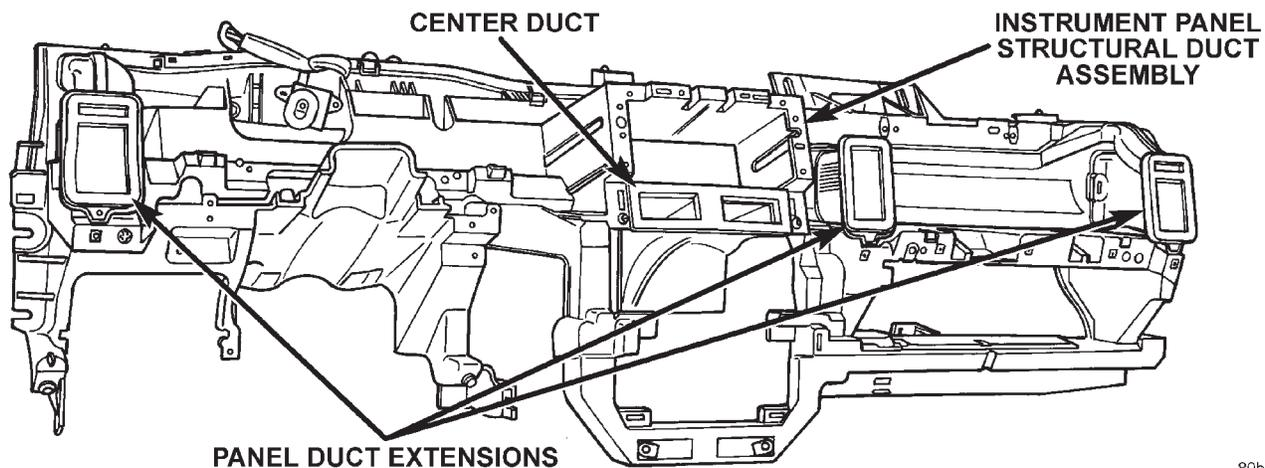

Fig. 37 Instrument Panel Structural Duct Assembly
- (2) Unsnap the duct extension(s) from the instrument panel structural duct assembly (Fig. 37).